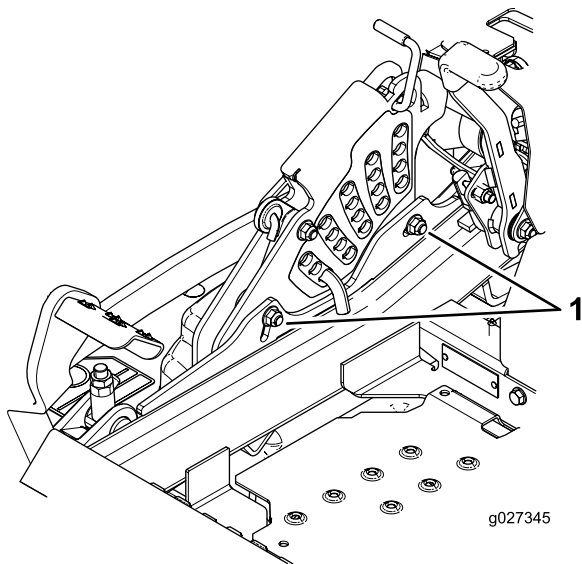

Figure 93
12. To adjust the single-point system, loosen the 2 bolts at the bottom of the height-of-cut plate (Figure 93).